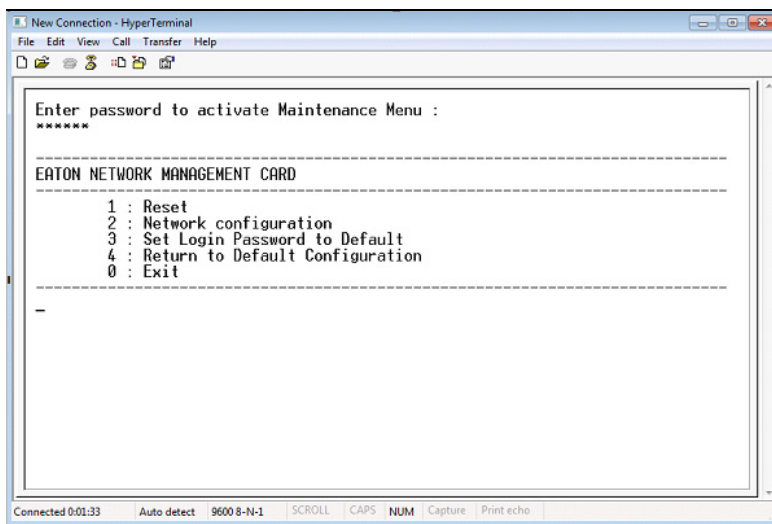

Figure 4. Network Card-MS Main Menu
13. Enter the password (default is **admin**). The Network Card-MS main menu displays (see Figure 4).